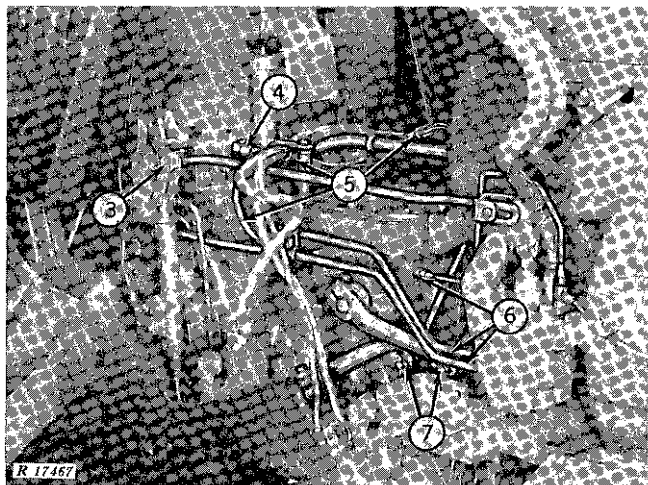

Fig. 10-Right-Hand Side of Transmission Case
3. Disconnect differential lock control link (Fig. 10).
If removing right-hand axle housing on a tractor with a differential lock, disconnect battery ground and remove the right-hand battery. Disconnect the differential lock control link. Remove the pressure inlet pipe, return pipe, and pressure pipe to differential lock (Fig. 10). Remove the differential lock valve.